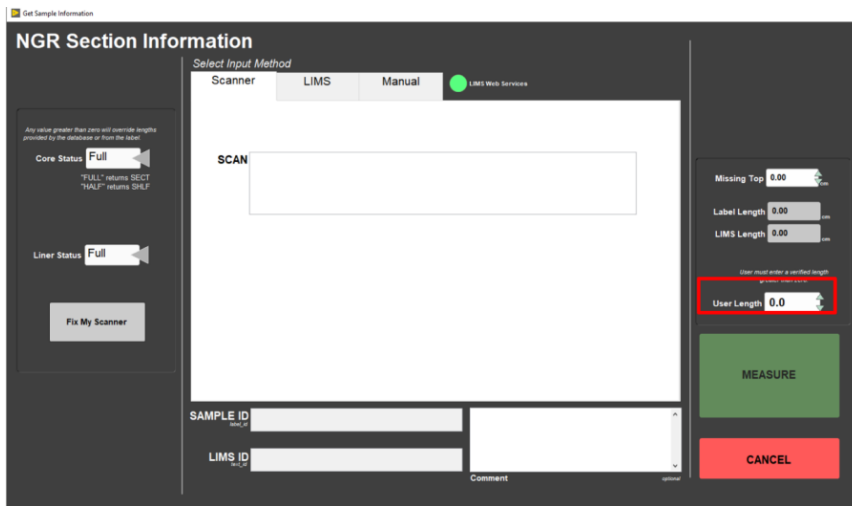

Figure 3. NGR Section Information screen. **User Length** box is marked in the red square.
2. Click **Start**. The **Section Information** screen is displayed (Figure 3).